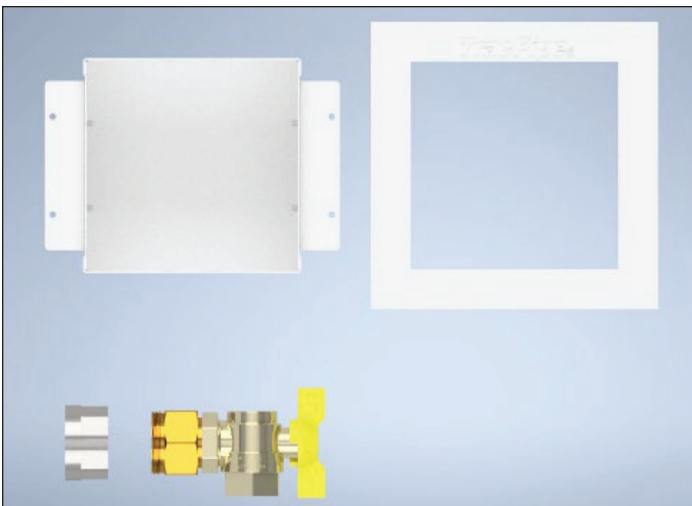

Figure: 1-4
4. Remove Cover from the Metal Wall Box and Floppy Conduit Adapter from the Nut (Figure 1-4).